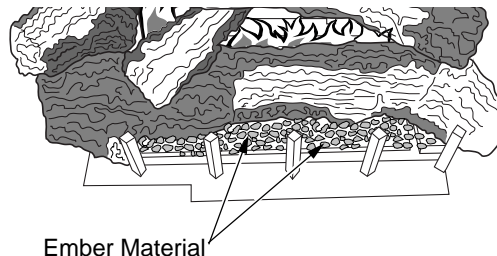

Figure 46 - Placing Ember Material on Burner
9. Pull ember material apart into pieces no larger than a dime. Place these pieces loosely and sparingly directly onto the exposed section of the front burner and along the space between the burner and grate prongs (see Figure 46). This will create the glowing ember appearance as the flame touches the ember material. Do not block air slots by using too much ember material in one area. It is not necessary to use all of the ember material provided.